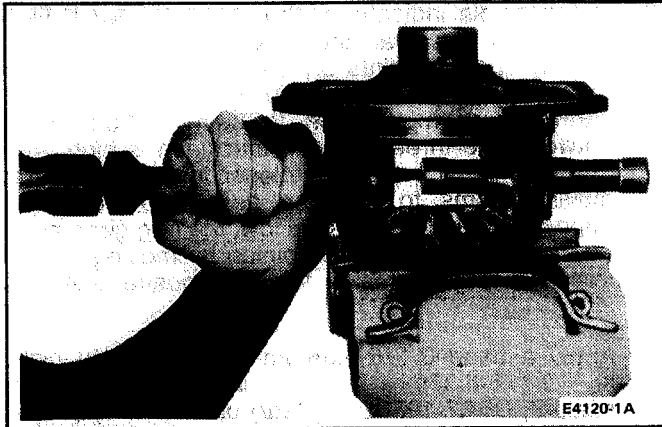

FIG. 39 Removing Mate Shaft
2. Remove drive pinion mate shaft with a drift (Fig. 39).